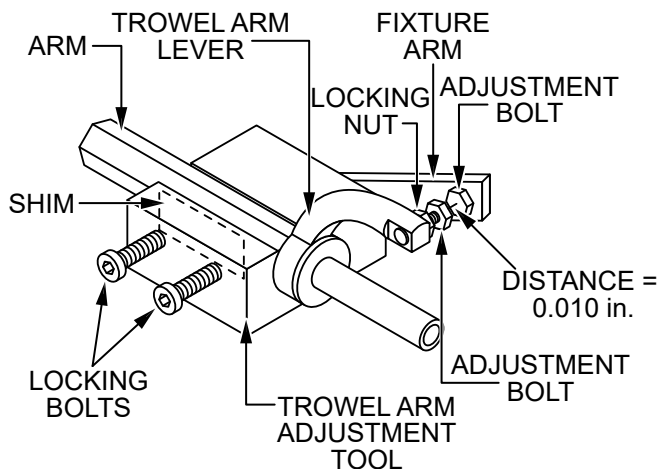

Figure 56. Trowel Arm Adjustment
4. Unscrew the **locking bolts** on the adjustment tool and place the **trowel arm** into the fixture channel as shown in Figure 56. A thin **shim** may be required to cover the blade holes on the trowel arm. Make sure to align the **trowel arm adjustment bolt** with the **fixture adjustment bolt**.
5. Tighten the **locking bolts** (Figure 56) with an Allen wrench to secure the trowel arm in place.
6. Loosen the **locking nut** on the **trowel arm lever** (Figure 56), then turn the **trowel arm adjustment bolt** until it barely touches (**0.010"**) the **fixture adjustment bolt**.